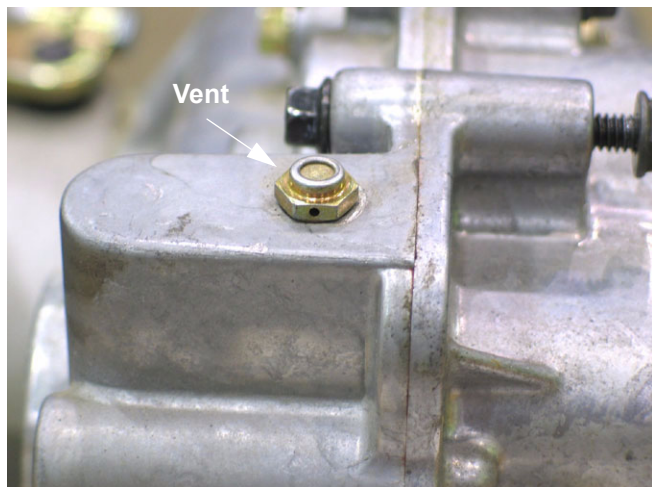

Figure 2.10
- 2.10. A blocked vent can provoke oil leaks. The vent is located at the top of the transaxle housing. See Figure 2.10.